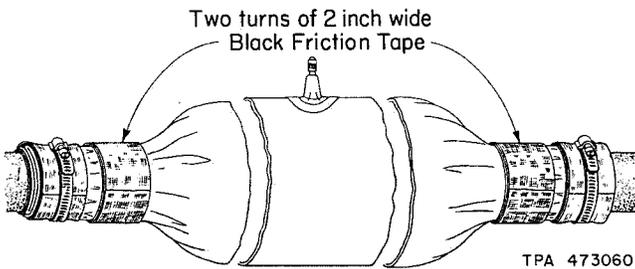

Fig. 9—Installed Cover
5.11 Apply two turns of 2-inch wide black friction tape to the overlapped portion of the cover as shown in Fig. 9.